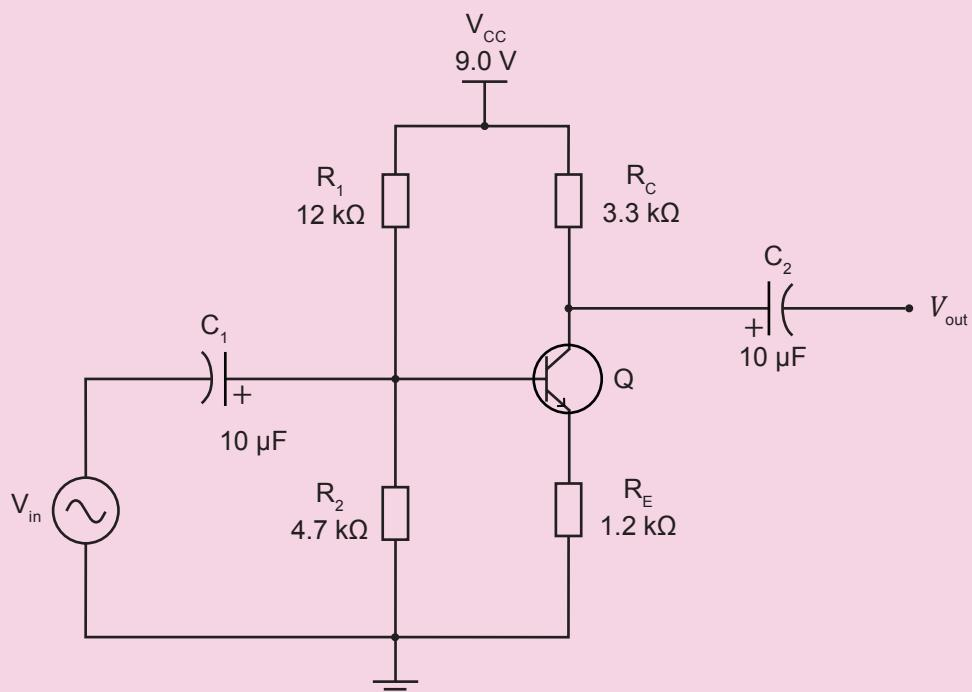

Figure 9.27
1. For the voltage-divider biased amplifier circuit shown in Figure 9.27, calculate the following: